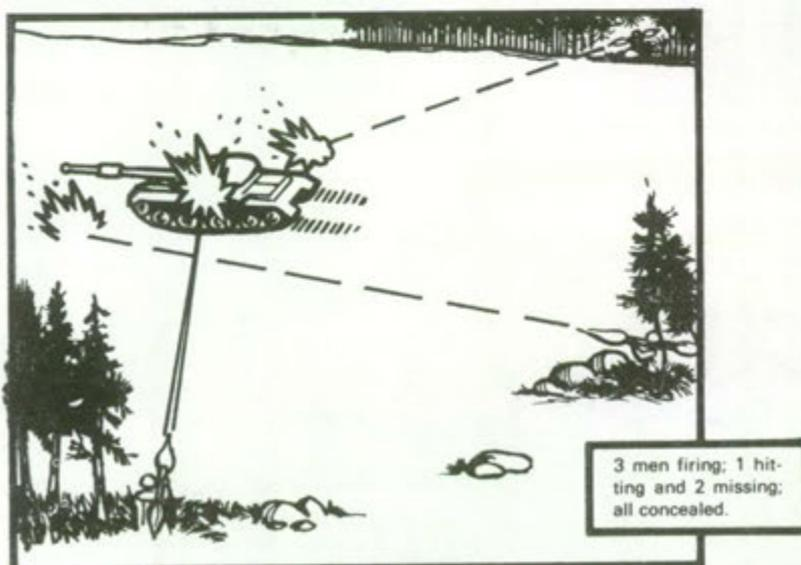

Figure 6.
**c. Volley firing.** A target is engaged simultaneously by more than one individual, each firing one LAW; on command, succeeding volleys are fired until the target is destroyed (figure 6).